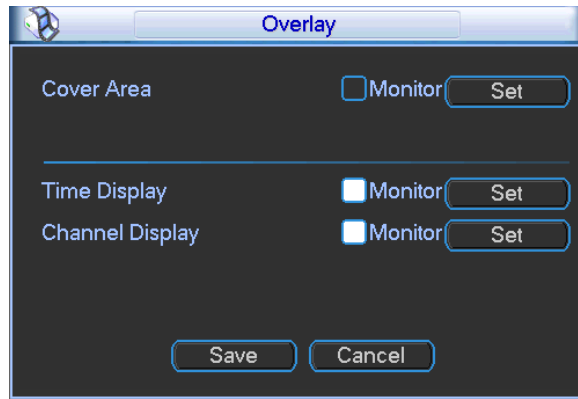

Figure 3-25
- Overlay: Click overlay button, you can see an interface is shown in Figure 3-25.